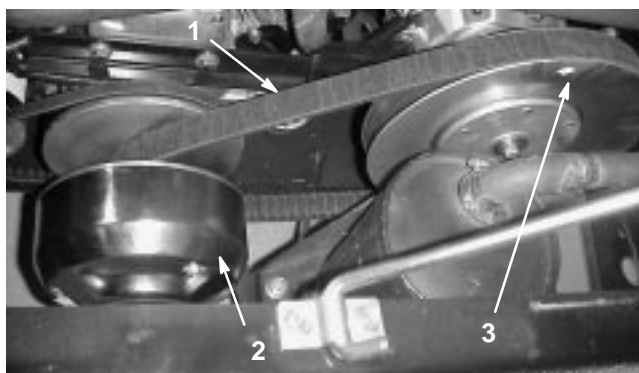

Figure 37
3. Rotate and inspect the belt (Fig. 37) for excessive wear or damage. Replace the belt if necessary.
1. Rotate and route the belt over the secondary clutch (Fig. 37).
2. Remove the belt from the primary clutch (Fig. 37).